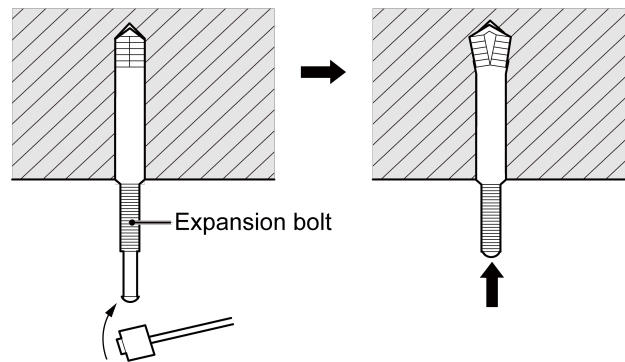

Fig.4.11
2) Insert M10 expansion bolt into hole, and then set the iron nail into bolt. As shown in Fig.4.11, and then remove the paper pattern.